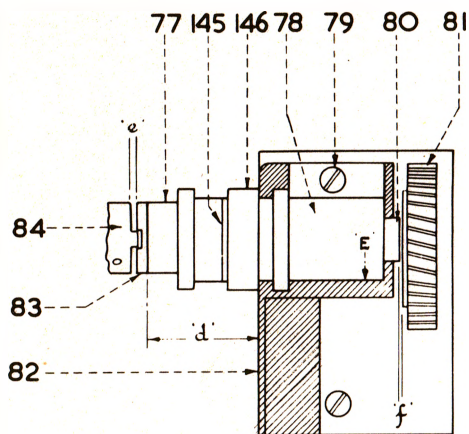

FIG. 3
32. Transmitter coupling, Fig. 3